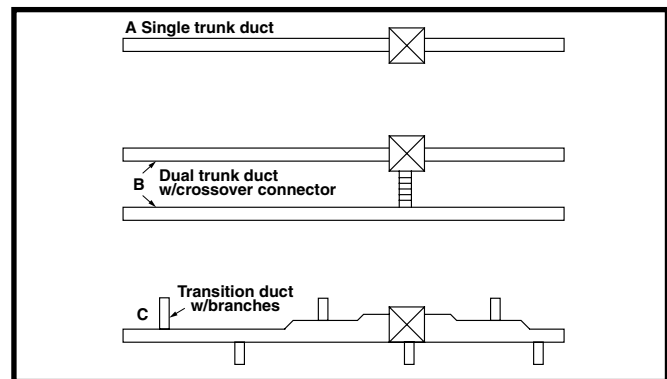

Figure 6. Typical Supply Duct Systems
- Location, size, and number of registers should be selected on the basis of best air distribution and floor plan of the home. Three typical distribution systems are shown in Figure 6